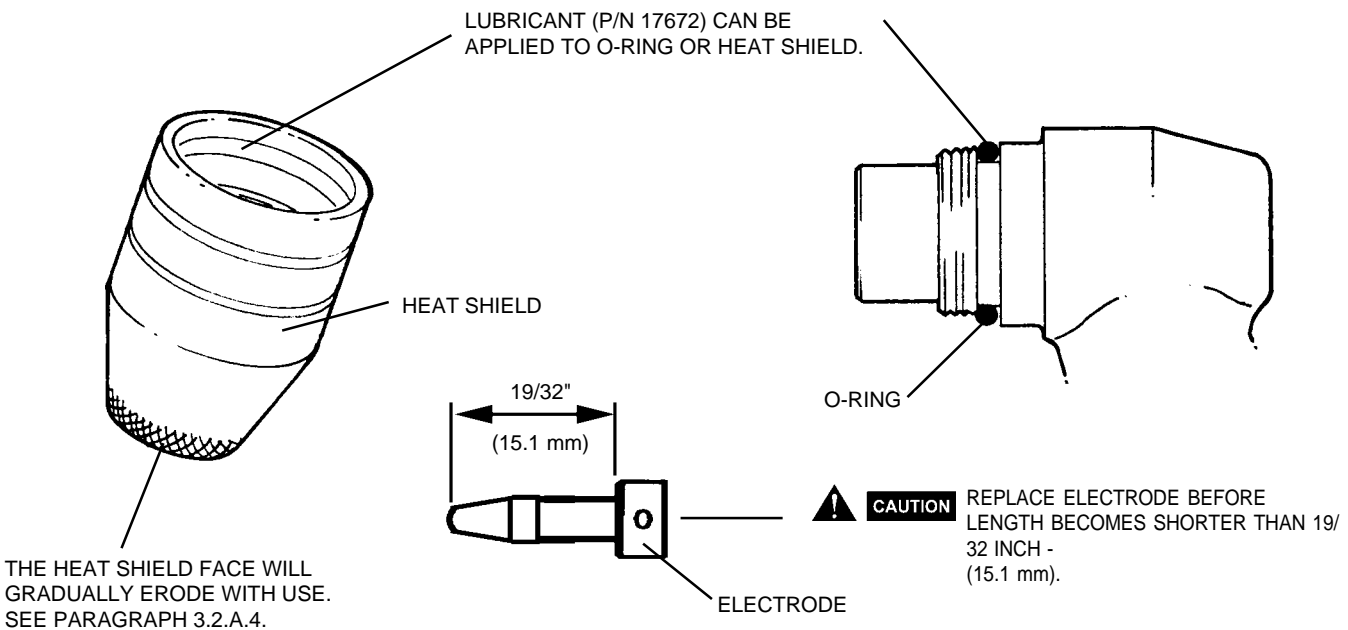

Figure 3-1. O-ring, Electrode, and Shield Maintenance
3. Electrode: See Figure 3-1 for electrode maintenance.
4. Shield: The face of the shield will gradually erode from the heat and molten metal spray. Replace the shield if more than 1/8 inch (3.2 mm) has eroded from the face. Refer to Figure 3-1.
6. O-ring: Lubricate as per Figure 3-1. Replace if cut or worn. Air leaking past this seal will reduce cutting performance.